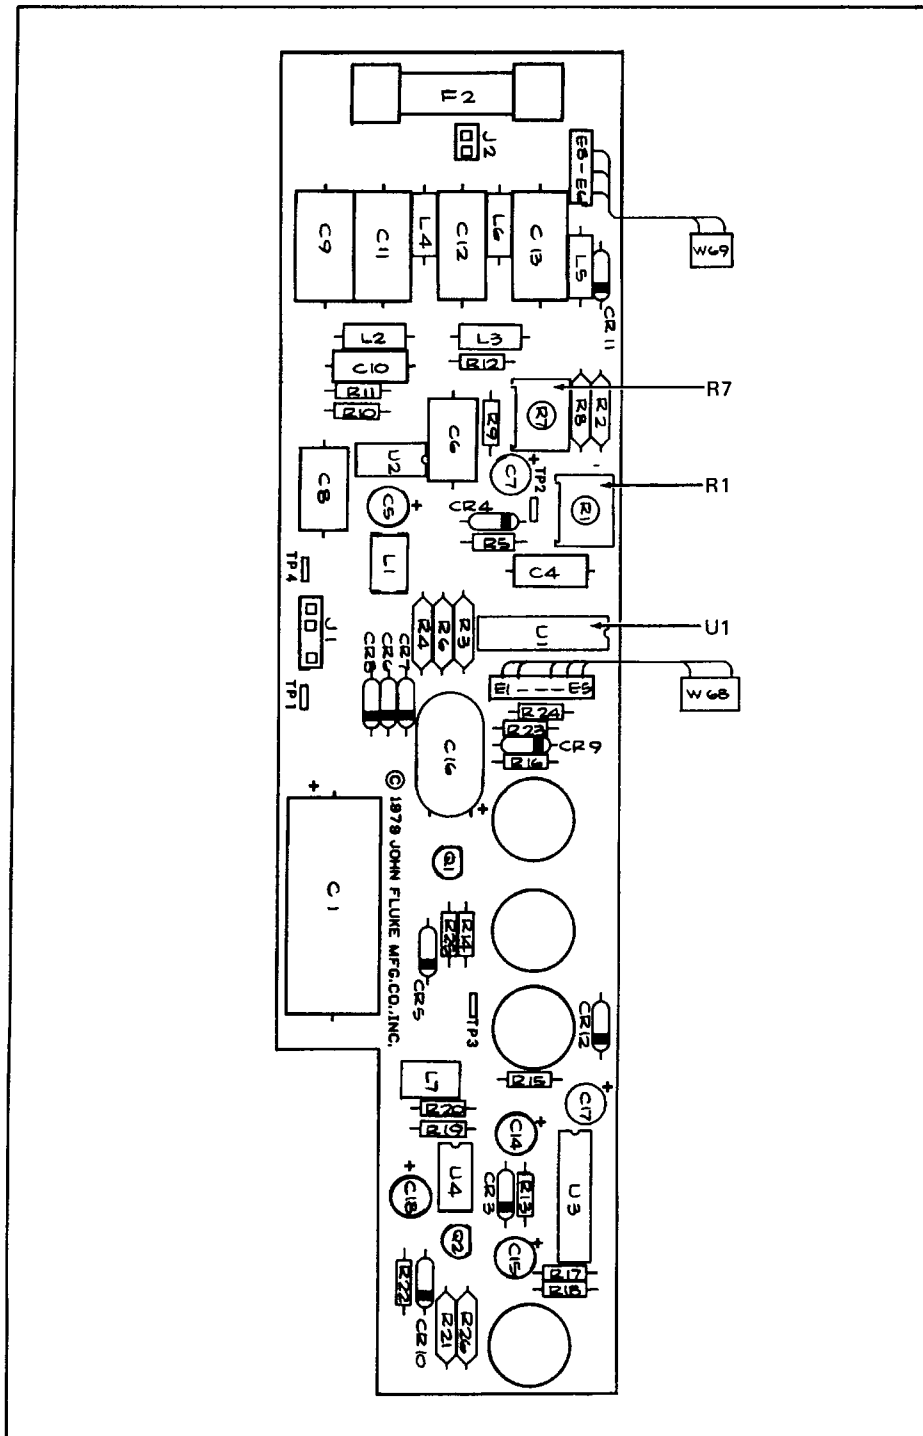

Figure 6-2. A5A2 P/S Regulator PCB
- a. Connect the oscilloscope or the frequency counter to pin 11 or pin 13 of U1 on the A5A2 P/S Regulator PCB (Figure 6-2).
- b. Adjust R7 on the A5A2 Regulator PCB (Figure 6-2) so that the DVM display is between 5.94 and 5.96V dc.